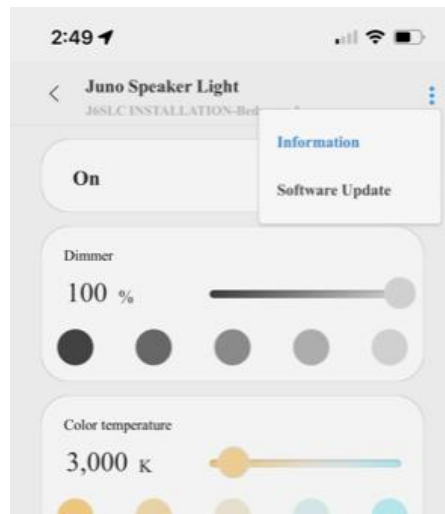

Figure 11
7. Select "Software Update" in the drop-down menu. (Figure 11)